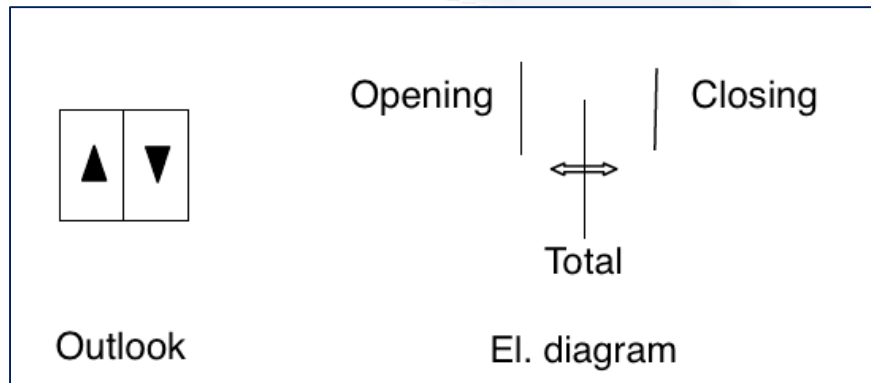

Fig. 10
- Connect the button for daily ventilation to the terminal BV according to the scheme, as indicated in Fig. 10